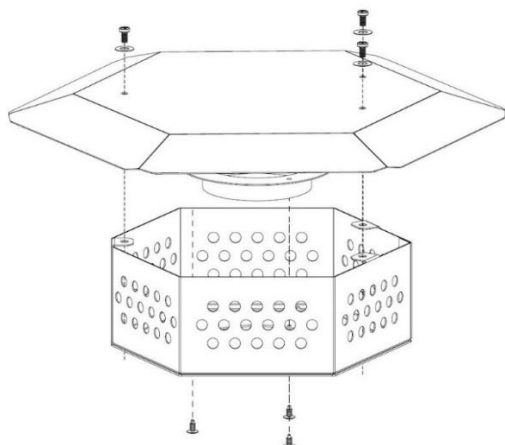

Fig. 7
7. Fasten the centring ring (PC) to the chimney (K) with 3 bolts. Mount the heater cap (CO) with 3 screws M5 as in fig. 7.